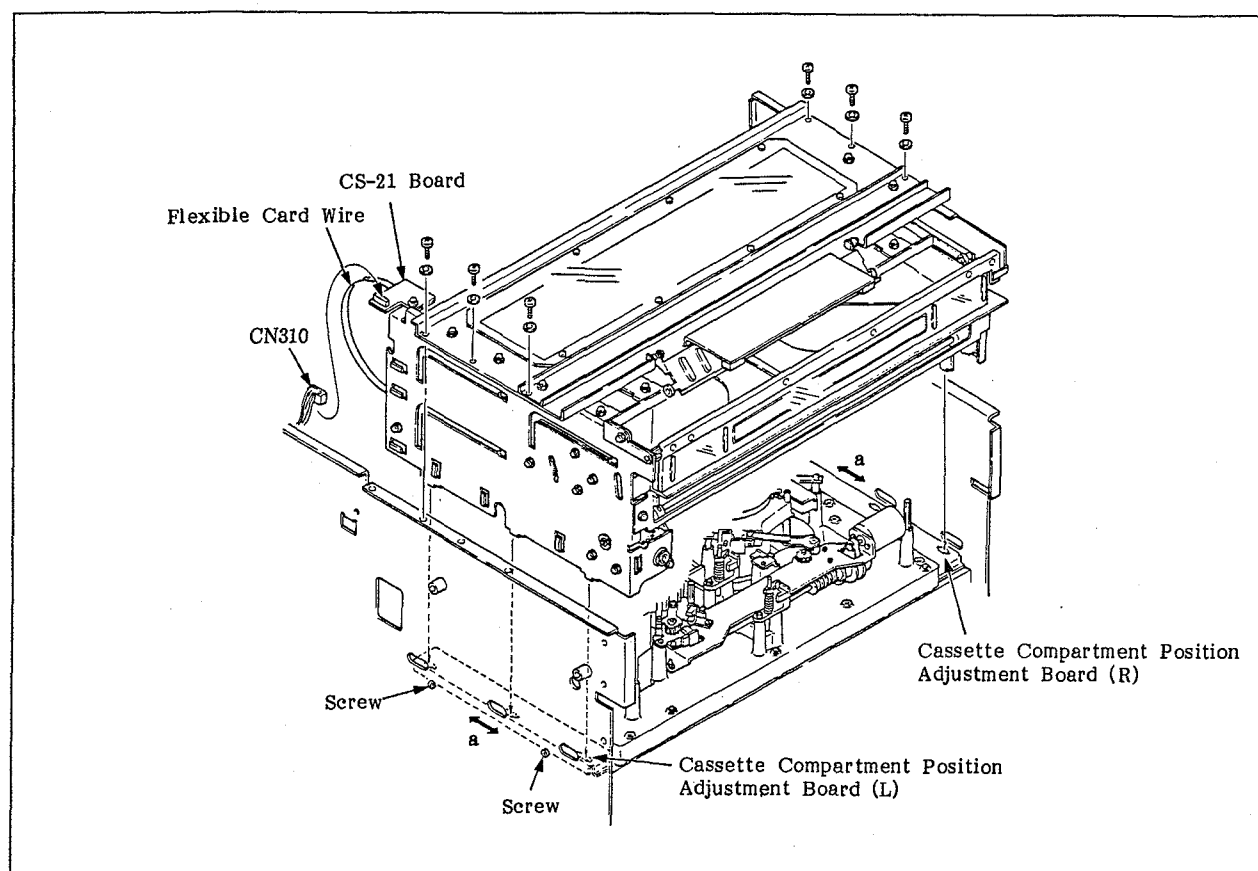

Fig. 6-13 Assembling the Cassette Compartment
Then tighten them securely with six screws (PS3 x 8). (Fig. 6-13)
9. Loosen the four screws (two for each side) that hold the right and left cassette compartment position adjustment boards, shown in Figure 6-13, by two or three turns so that it can be slid into the direction of arrow a.